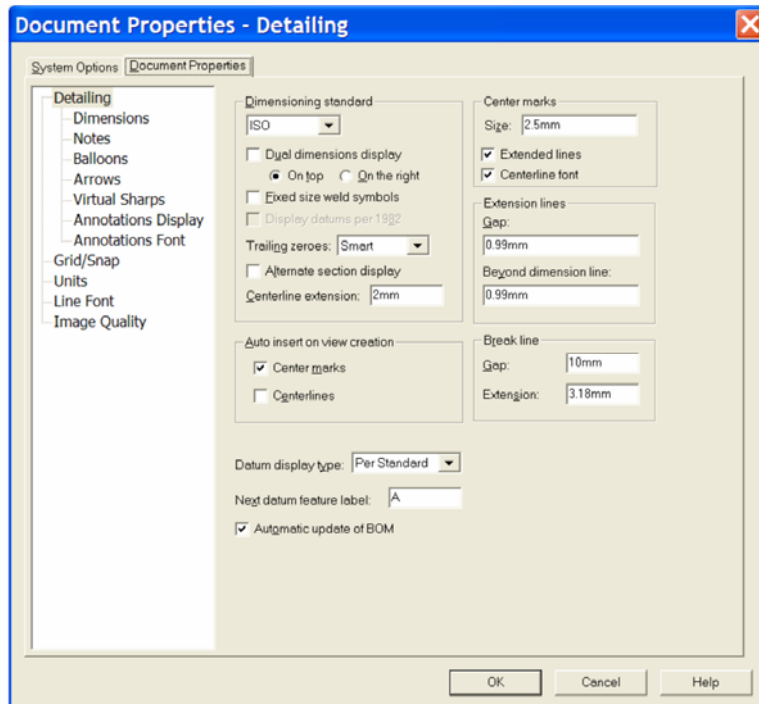

Figure 3
9. We are now ready to build and insert the '**Bill of Materials**'. From the '**Tools**' dropdown menu navigate to '**Document Properties**' and '**Detailing**'. Make sure that '**Automatic Update of Bill of Materials**' checkbox is selected. See Figure 3.